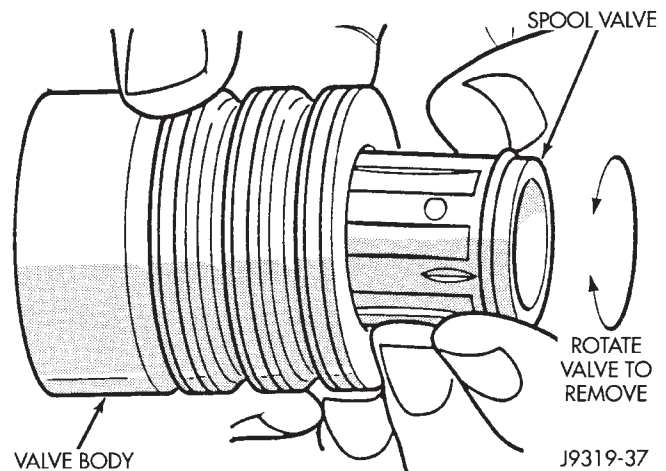

Fig. 26 Remove and Install Spool
- Remove valve spool by pulling and rotating from valve body (Fig. 26).